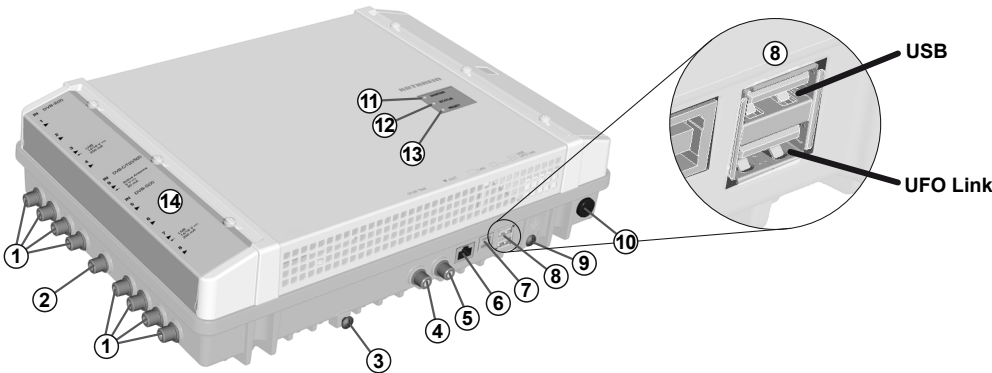

Fig. 1: Device elements
- Do not open the casing and do not modify the device. Otherwise the guarantee and warranty will become void. Exception: Cover of the CI slots (Ⓢ in Fig. 1, P. 3)
1. Connect a potential equalisation wire (Cu, $\geq 4 \text{ mm}^2$) to the earthing screw; see ⑨ in Fig. 1, P. 3.
- The plugs must be inserted into the master and slave at the appropriate UFO link interface ports (⑧ in Fig. 1).
4. Connect the RF signal cables for the antenna, cable network and output to the head-ends; see ①, ② and ⑤ in Fig. 1, P. 3.